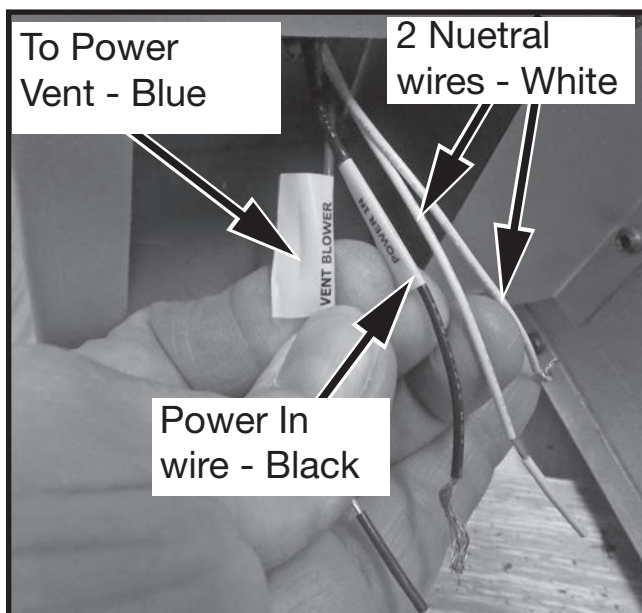

Figure 27: Junction box wiring.
5. Connect 110 V. AC electrical supply to the wires installed inside the junction box (Figure 27). The fireplace is rated at 110 volts, 60Hz, 0.25A. The power vent kit is rated at 115 volts, 60Hz, 1.8A. The wiring for the power vent is also accessed here.